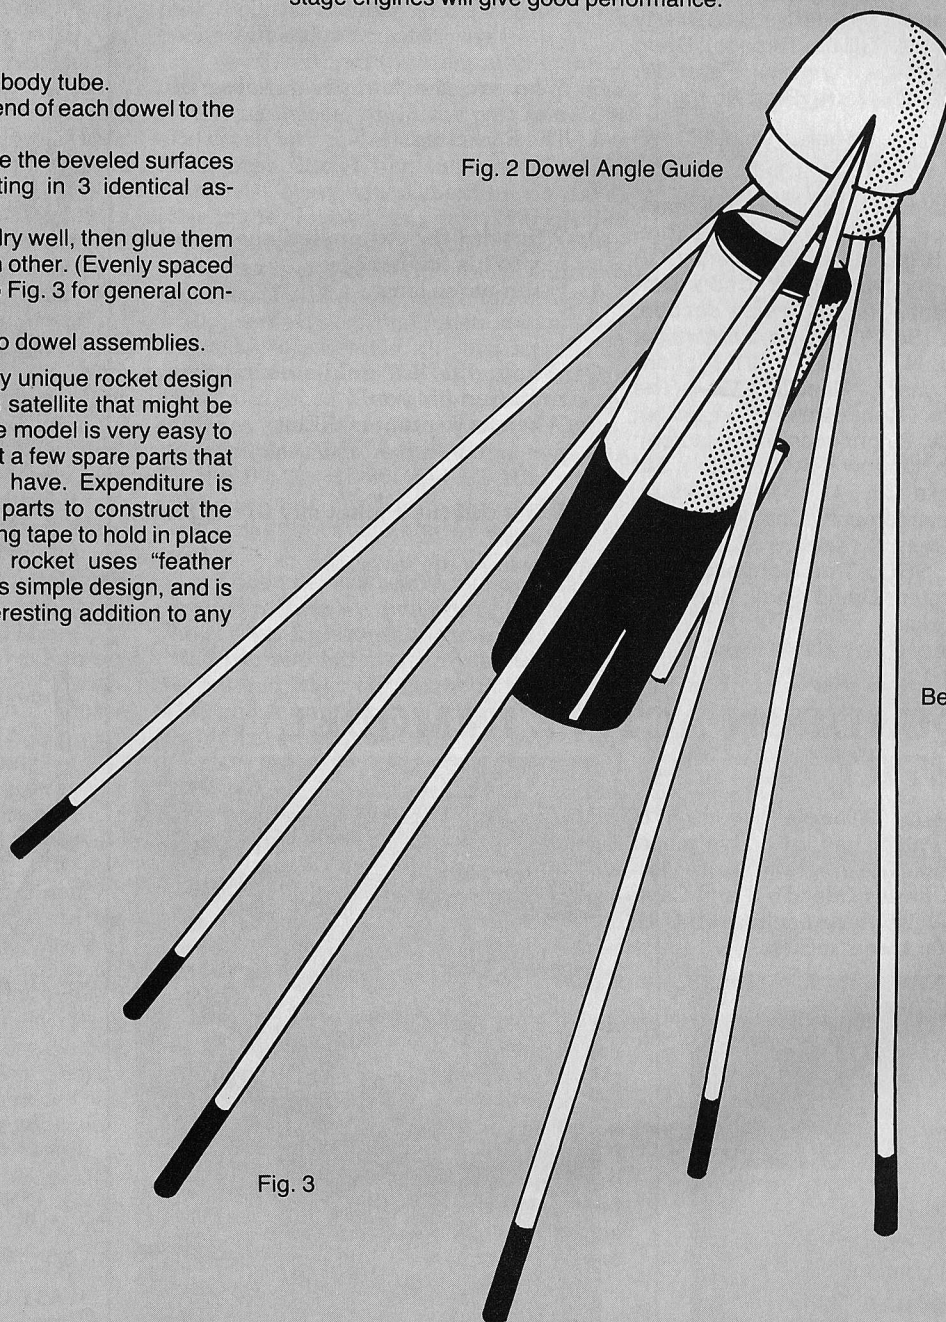

Fig. 3
- D) Allow the dowel assemblies to dry well, then glue them to the nose cone at 120° of each other. (Evenly spaced around the nose cone.) Refer to Fig. 3 for general concept.